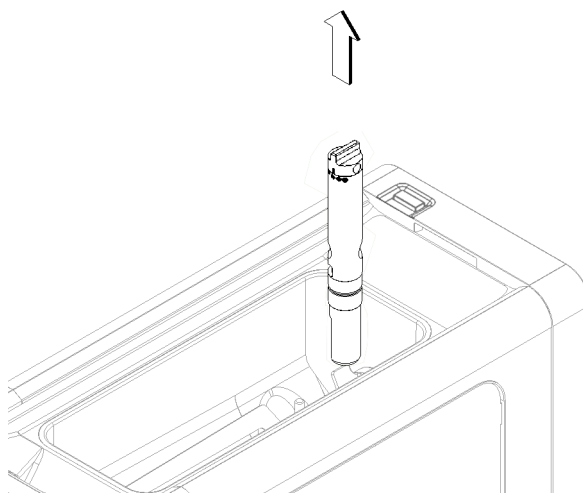

figure 18
- 4 Remove the mixing tube and dismantle it (see figure 18)